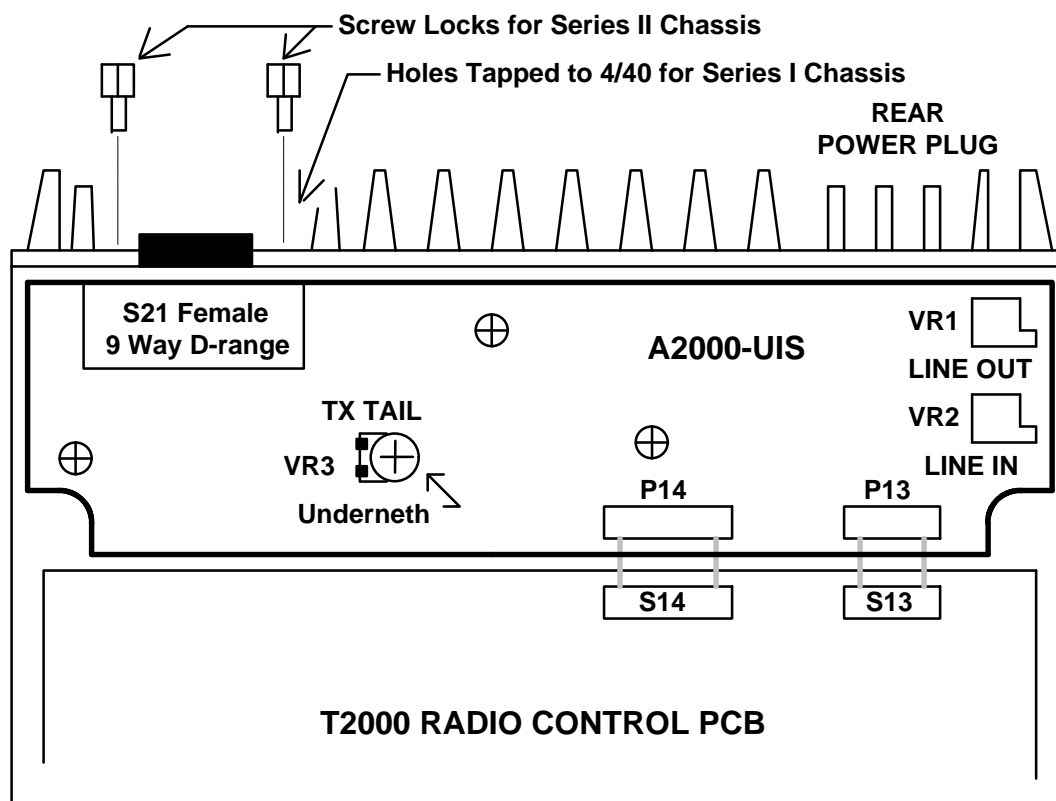

Figure 2.
6. a. Carefully fold the radio control board and the A2000-UIS back into position, guiding the 9 way D-range connector S21 through the hole provided in the rear of the T2000 chassis. Screw the radio control board and the A2000-UIS down with the M3 x 8 mm Taptite screws. Fit the two screw locks from Step 5. Back into the connector S21 but from the outside of the radio. Refer to Figure 2. below.
6. b. Using a 4x40 tap tool or the two 4x40 screws provided in the A2000-UIS kit, tap the two holes on the rear of the T2000 chassis adjacent to the larger hole for D-range plug. Discard the two 4x40 screws once the holes are tapped. Discard the two screw locks from Step 5. Carefully fold the radio control board and the A2000-UIS back into position, guiding the 9 way D-range S21 through the hole provided in the rear of the T2000 chassis. Screw the radio control board and the A2000-UIS down with the M3 x 8 mm Taptite screws. Refer to Figure 2. below.